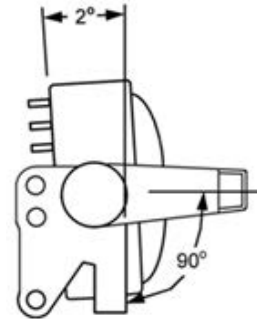

Figure 3- Panhard bracket and Pinion Angles
- 8.) Adjust the link bars evenly to prevent the suspension from binding up. The upper bars will position the housing, and the lower ones will set the pinion angle. The pinion angle should be set with a 2° down angle, see **Figure 3**. You can fine tune the pinion angle to match your engine with the lower links. Double check all angles, then tighten down all bolts and nuts, including jam nuts.